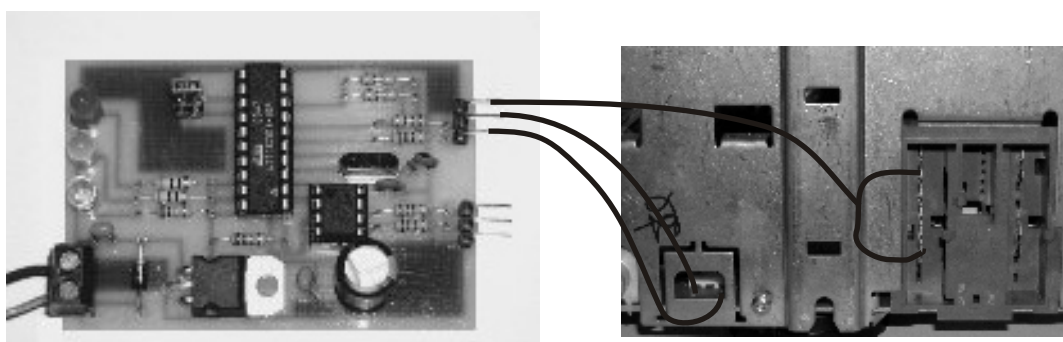

Figure 2
- Connect the E-13 to car radio according with Figure 2